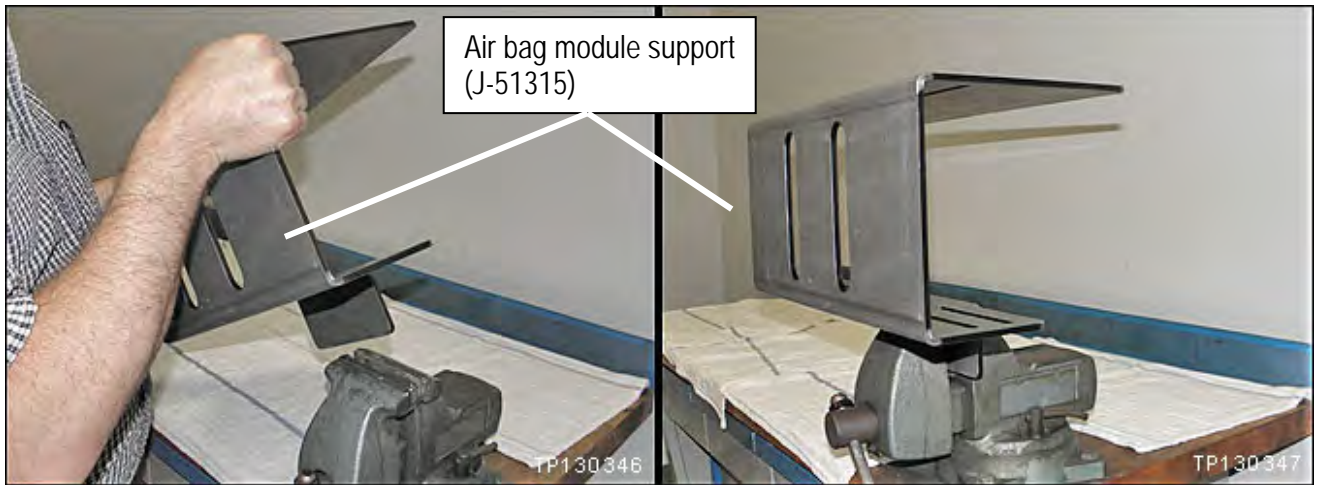

Figure 8
14. Securely mount the air bag module support (support) in a vice (see Figure 8).